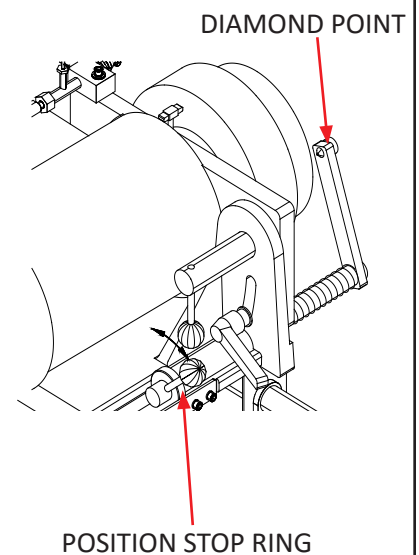

FIG. 26
2. Swing the dresser about 15 degrees clockwise to position the diamond point in front of the grinding face of the wheel. See FIG. 26. Rotate the position stop ring until the diamond point of the dresser lightly contacts the face of the wheel. See FIG. 26.